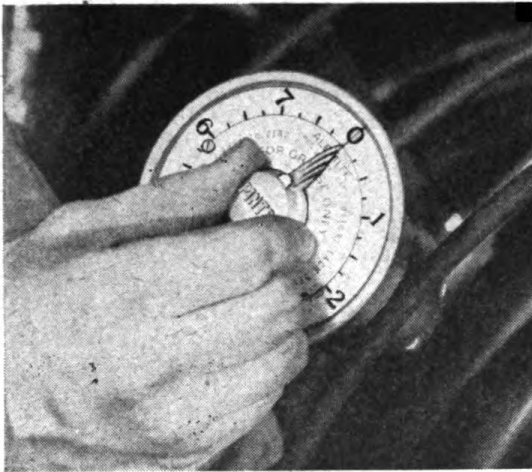

Figure 17
c. **TO FILL TRANSMISSION, DIFFERENTIAL,** or any housing requiring "gear" lubricant, turn meter knob back to zero (See Figure 17), remove gear case plug, insert the meter nozzle into the hole,